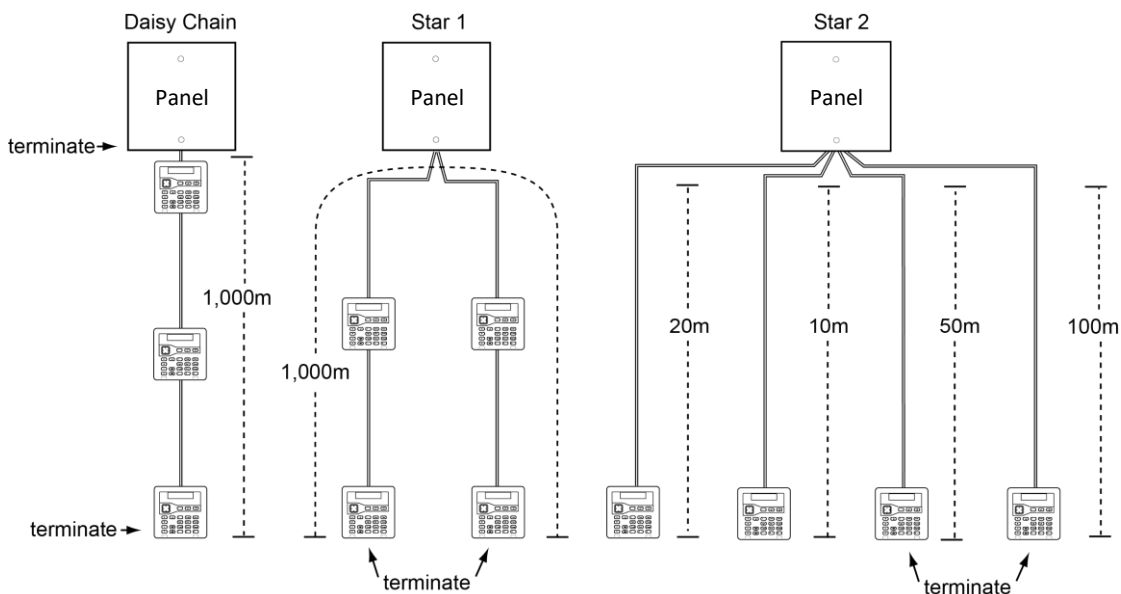

Figure 5: Bus termination
You can connect devices either in daisy chain (serially), or in star (parallel) configuration at the panel connector (Figure 5, page 20). For star configurations, the cable length from panel to the most distant keypad should be kept short and should not exceed 100m.
In a star configuration, terminate at the two devices on the ends of the longest cables (Figure 5).
You can connect up to 10 wired detectors (0 to 9) to the panel using the Fully-Supervised Loop (FSL), 4-wire Closed Circuit (CC) or 2-wire CC wiring method (Figure 5, page 20). You must use the same method for all detectors. If 4-wire CC is used, the number of zones is halved and are numbered 1-5.